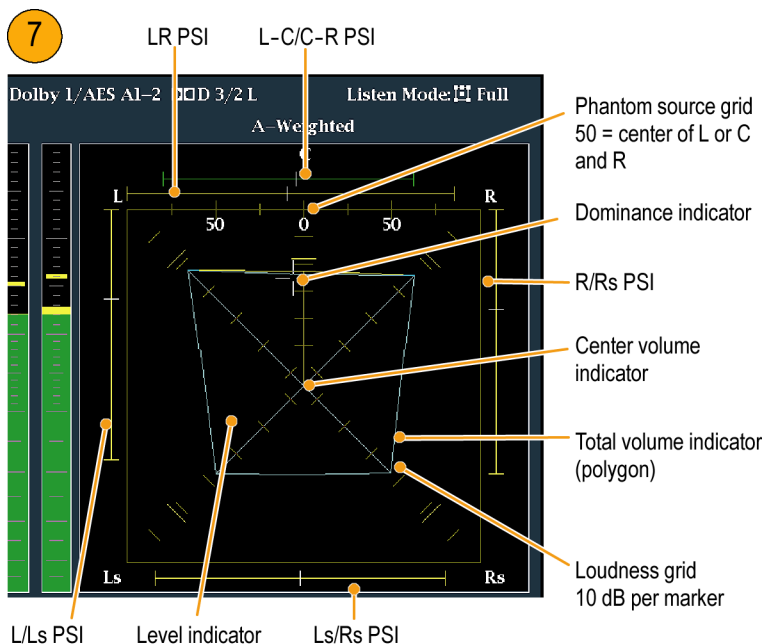

Figure 68: Surround sound indicators
7. Use the surround display to monitor relative loudness of the individual elements rendered in a surround-sound listening environment. Check the surround sound display for performance parameters and indicators. (See Figure 68.)